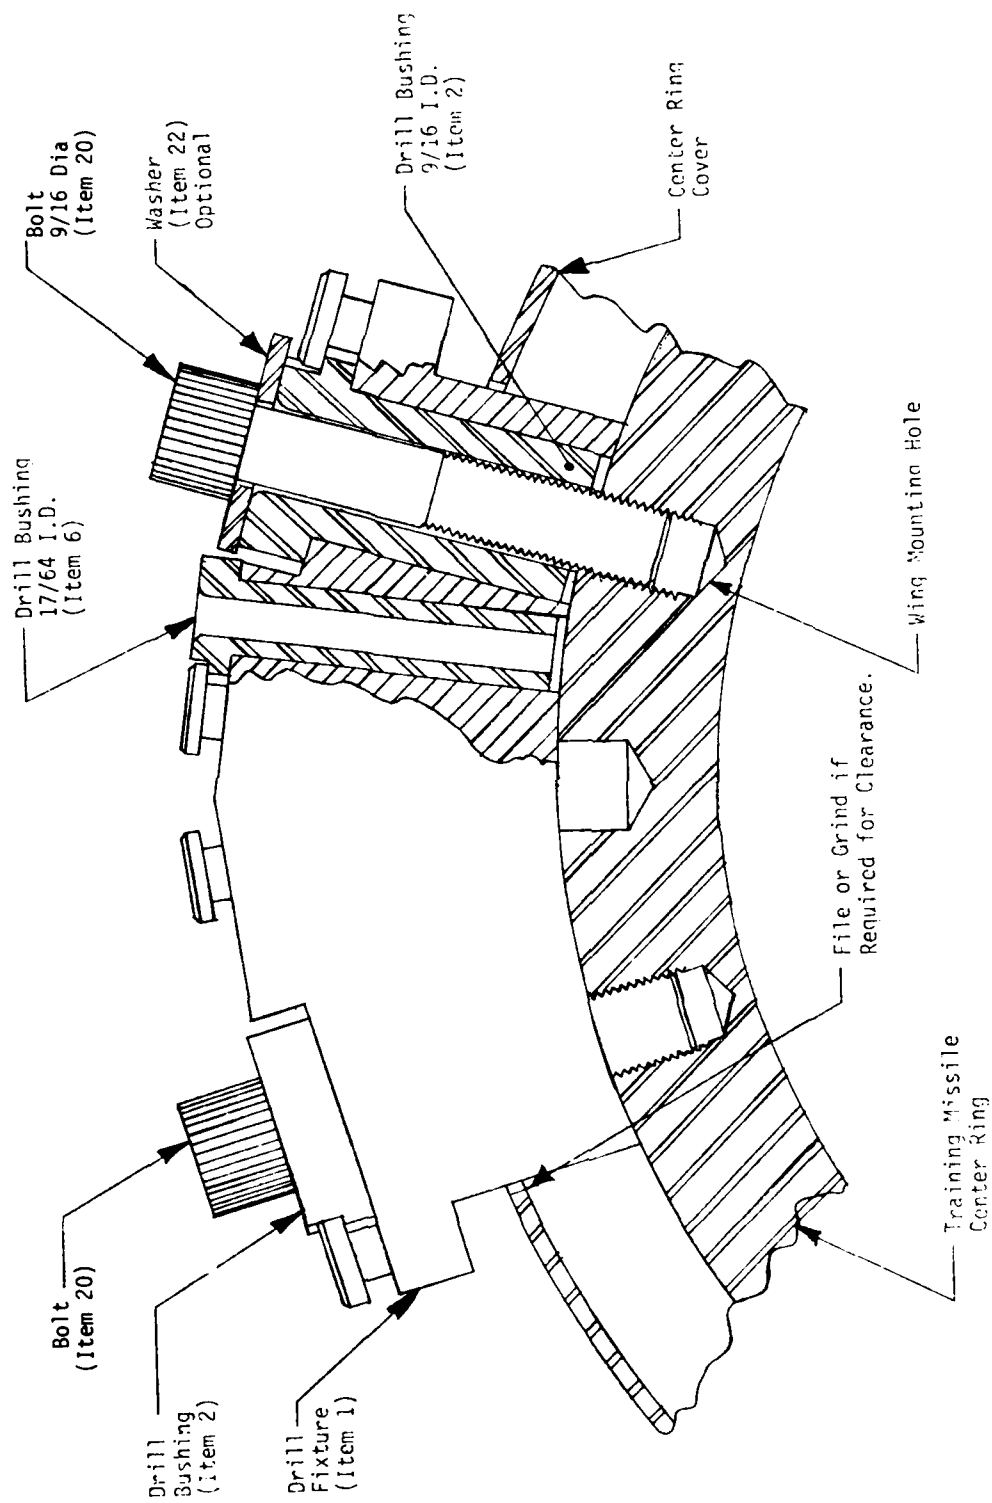

Figure 1. Keensert installation: Ready for drilling first hole.
7. Bolt drill fixture to missile using two 9/16-inch-diameter bolts (Item 20) through the drill bushings and into the holes in the missile, as shown in Figure 1. Tighten bolts with 7/16-inch Allen wrench (Item 29). Use sufficient torque on the bolts to firmly clamp the fixture to the missile. A good hard torque applied by hand using a standard length Allen wrench is adequate (approximately 120-inch-pounds). If a bolt is too long for the hole, it will bind against the bottom of the hole, and the fixture will not be clamped firmly to the missile surface. If this occurs, use one or two washers (Item 22) under the bolt head.
8. Insert the 17/64-inch I.D. drill bushing (Item 6) into one of the 1/2-inch-diameter holes in the drill fixture (see Figure 1).